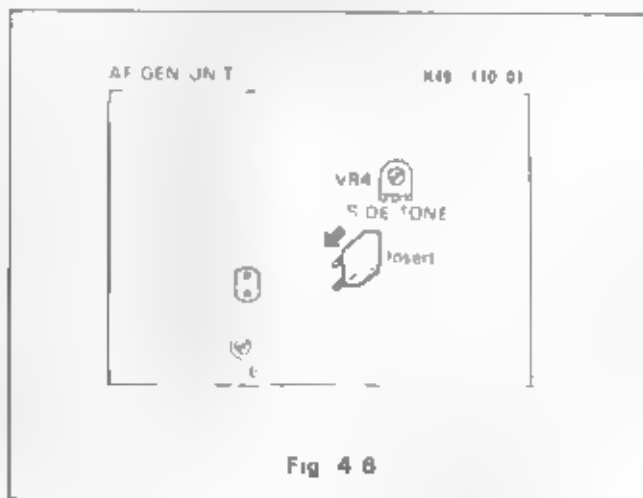

Fig. 4-6
4.6 FIXED CHANNEL OPERATION (Fig. 4-6)